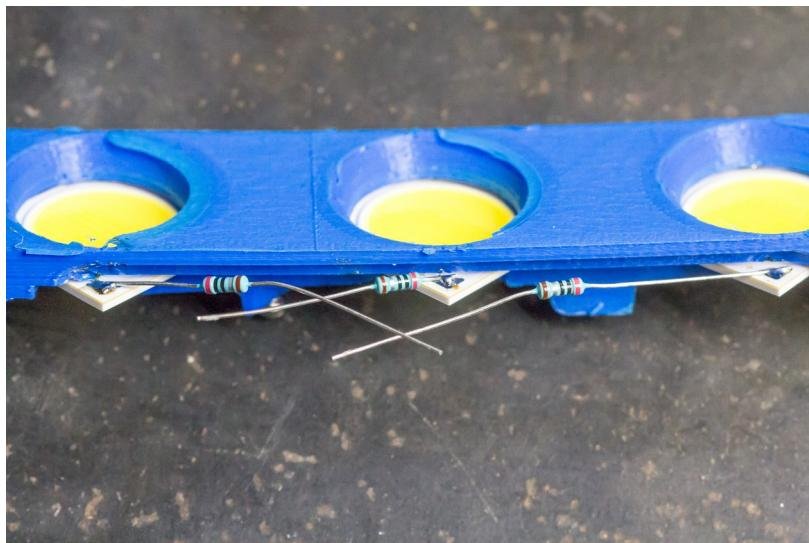

Figure 5: 2-ohm series resistors
8. Solder the **2-ohm Resistors** onto the **LED** anodes (positive) as shown in figure 5.